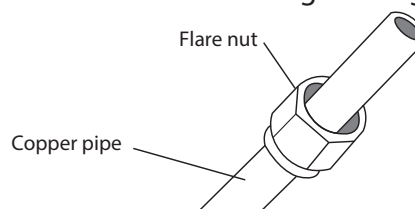

Fig. 7.6
- Place flare nuts on both ends of pipe. Make sure they are facing in the right direction, because you can't put them on or change their direction after flaring. See Fig. 7.6